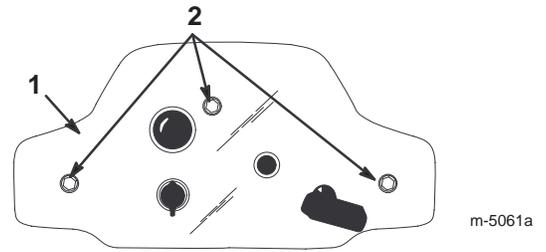

Figure 24
3. Remove the 3 mounting screws that secure the control panel to the housing (Fig. 24).